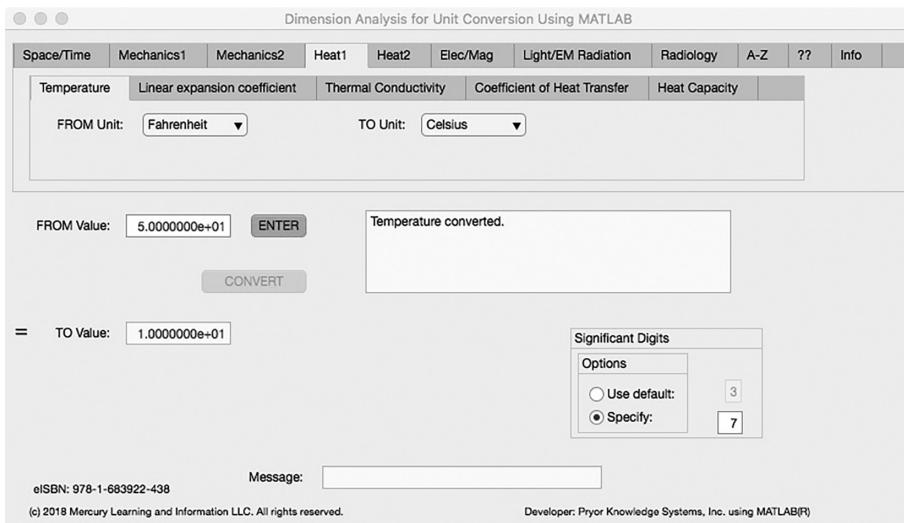

FIGURE 3.4-1 Unit Converter Using MATLAB App - Heat1 Temperature Tab.
The first Minor Tab under the Heat1 Major Tab is the Temperature Tab (see Figure 3.4-1). This example demonstrates the conversion of Fahrenheit to Celsius. In this example, the amplitude of Fahrenheit ($^{\circ}\text{F}$) is set equal to fifty (50). The conversion equation is shown in Example 3.4-1.